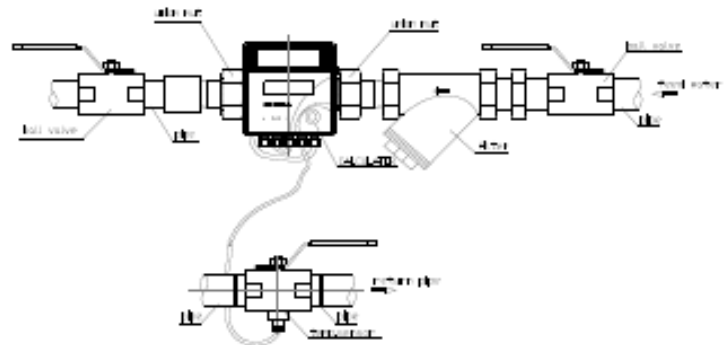
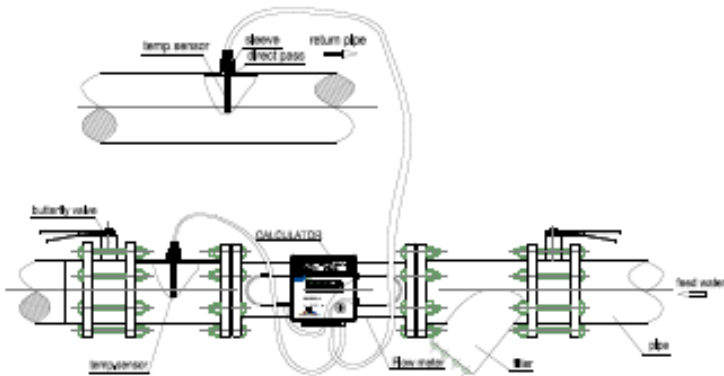

Figure 1: Installation Diagram for DN20 to DN40
Figure 2: Installation Diagram for DN50 to DN 250
1. Install the meter as shown in either Figure 1 or Figure 2.